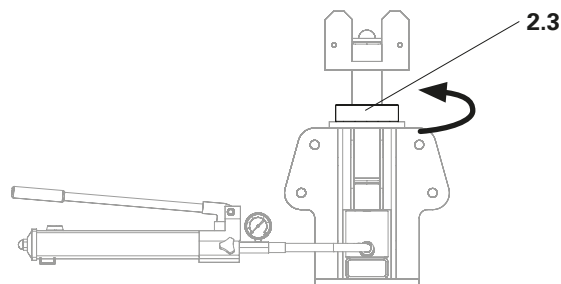

Fig. C2.02c
4. Tighten the head spindle nut (**2.3**). (Fig. C2.02c)